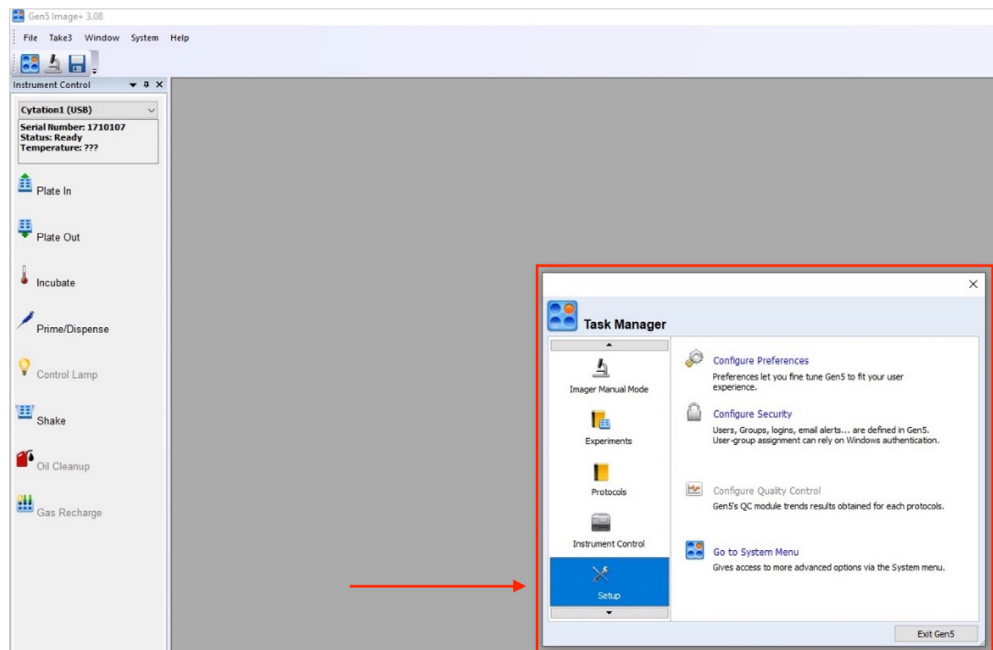

Figure 6. The **Setup** option in **Task Manager**.
- a Scroll down and select the **Setup** option (Figure 6).